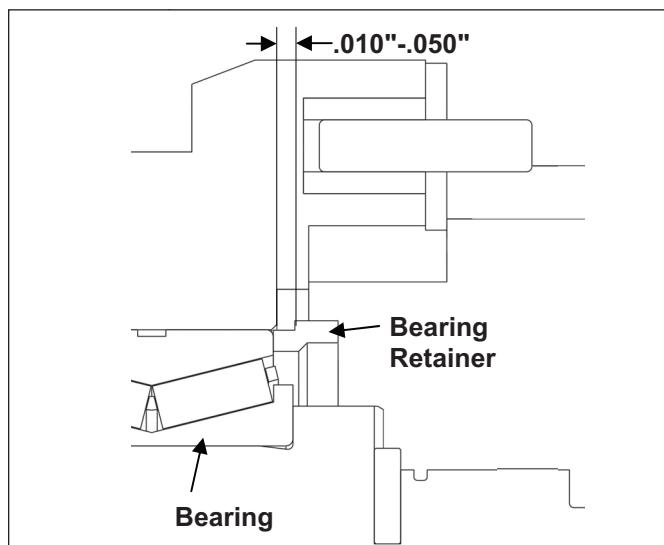
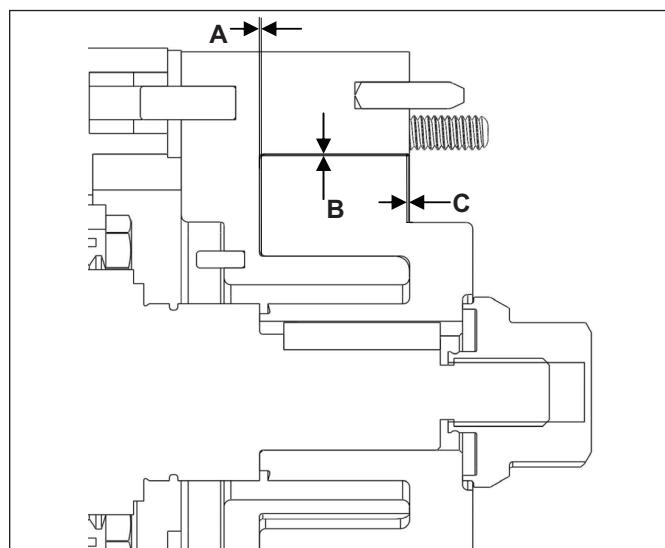

Figure 49. Bearing Retainer Clearance
Figure 50. Important Clearances
5. Once the shafts are pressed into the gear case, install the bearing retainers to hold the shafts in place temporarily (do not install liquid sealant). Ensure there is proper clearance between the retainer and the gear case, as seen in *Figure 49*. Place the body on the gear case, making sure it is seated correctly. Assemble the rotors into the body and tighten down using the jam nuts. Measure dimensions A, B, and C seen in *Figure 50* and refer to *Table 10* on page 41 to verify the clearances. If clearances are not correct, the shafts must be removed and the shims will need to be adjusted. If the clearances are correct, remove the rotors and body.